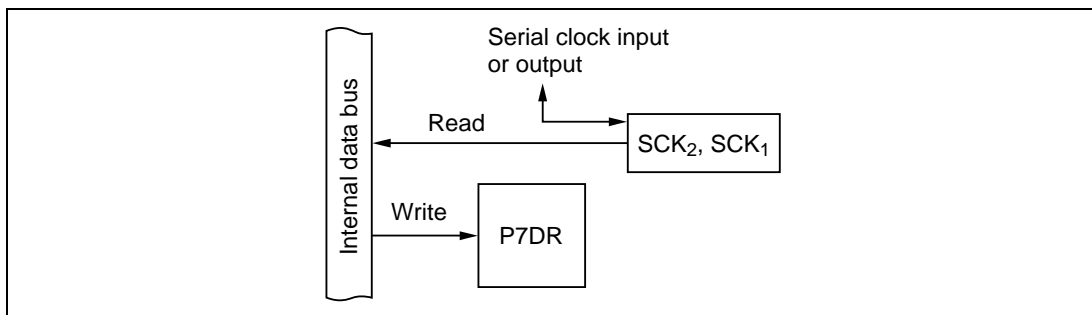

Figure 10-51 SCK₂ and SCK₁ Pins (Modes 1 to 7)
(7) SCK₂ and SCK₁ Pins (P7₇ and P7₆; Modes 1 to 7): Figure 10-51 shows a block diagram illustrating the SCK₂ and SCK₁ input/output function. Table 10-41 indicates register read/write data. When P7₇ and P7₆ are used for SCK₂ and SCK₁ input or output, the value written in P7DR is ignored, but P7DR can be read to monitor the levels at the SCK₂ and SCK₁ pins.